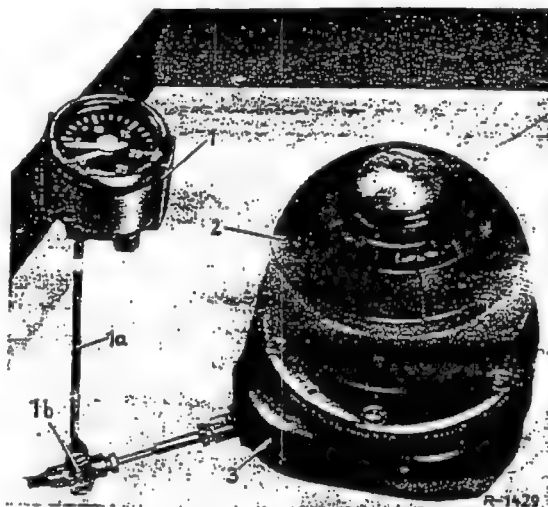

Fig. 32-14/16
5. Check air chamber and bellows for leaks under water (Fig. 32-14/16).